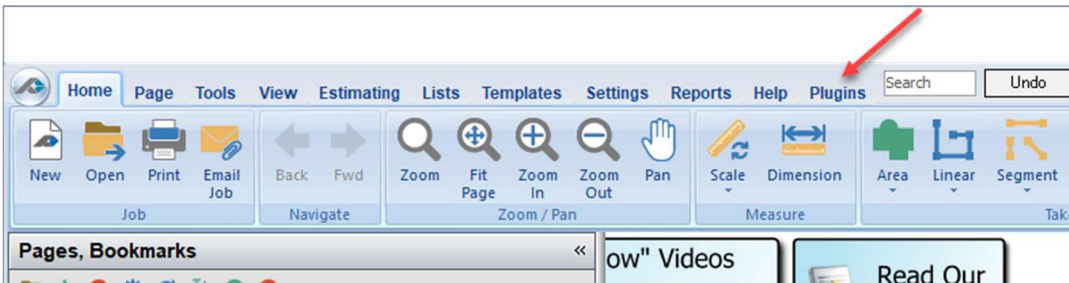

Figure 1
1. Click on **Plugins** on the PlanSwift **Main Menu Ribbon Bar** (Figure 1).